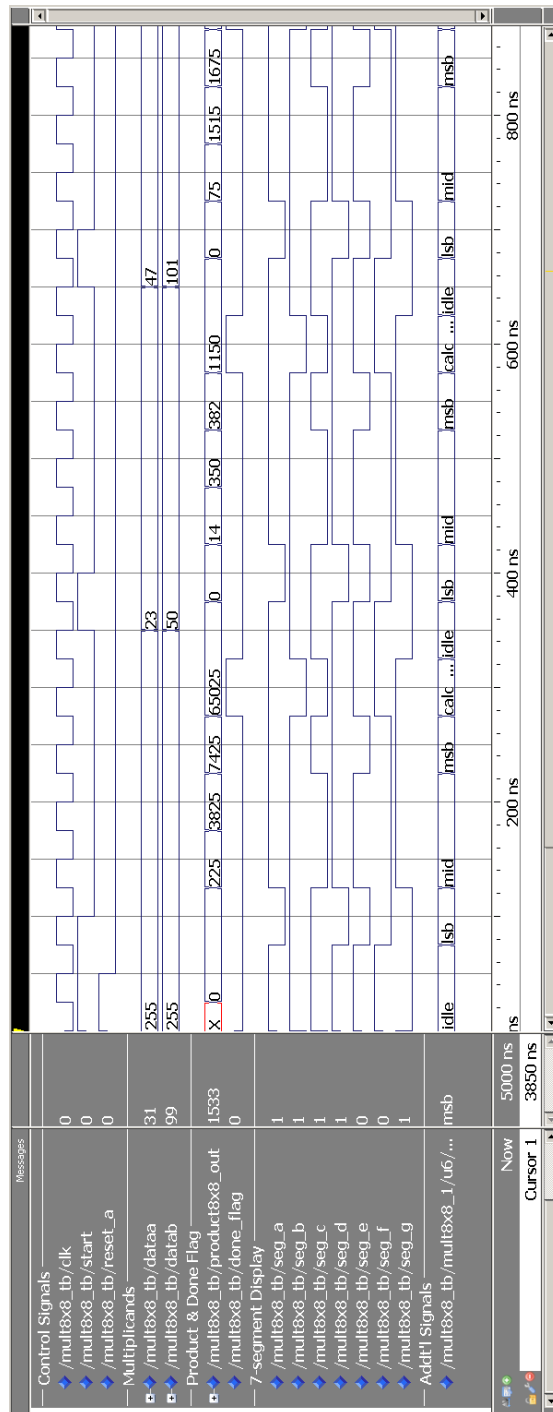

Figure 5-3: 8x8 multiplier simulation results (1st 900ns shown)
- ___ 3. Check simulation results for correct functionality. Bring the **Wave** window to the foreground. Use the Zoom In tool to zoom until you can see the product output calculations. Your results should look similar to Figure 5-3 below. Note that each time **done_flag** goes high, the design is returning the product of the current inputs. Note that each time **done_flag** goes high, the design is returning the product of the current inputs.